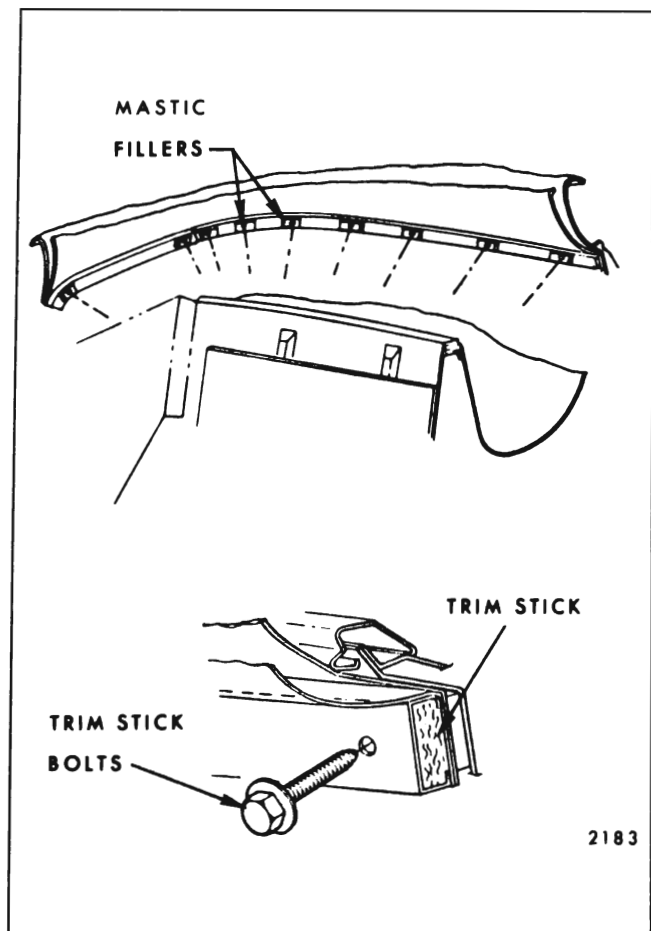

Fig. 13-19—Checking Trim Stick Fillers
12. Inspect mastic type trim stick fillers to body below pinch weld for sufficient seal at bolt holes (Fig. 13-19).